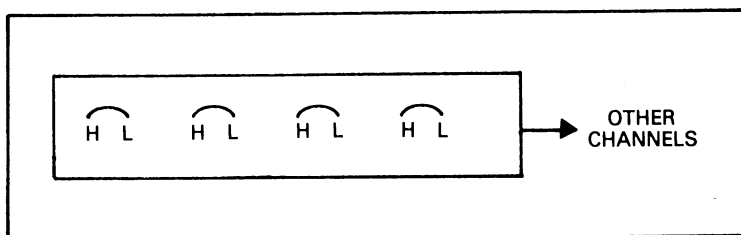

Figure 3-2. Shorting HI and LO on Each Channel
5. Short the HI and LO terminal of each channel (use clean copper wire). Refer to Figure 3-2. The OUTPUT terminals of the Model 7064 should be connected to short copper wires to facilitate connection of alligator clips from the Model 1506 cable. With the Model 1506 cable attached to the output, the scanner card should be inserted into the scanner mainframe.